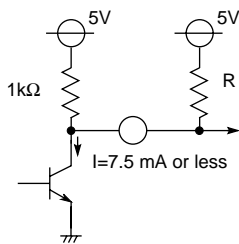

Fig. 1
4. The H and V output pins (pins ⑱ and ⑳) are as shown in Figure 1. Resistance can be inserted into a portion between power supplies to improve the rising speed. However, set the R value to limit the current to 7.5 mA or less. In Figure 1, R is 2 kΩ or more.